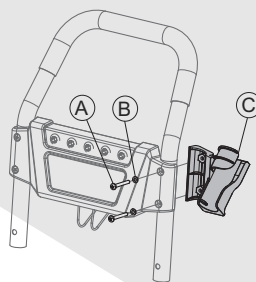

Fig 3
b. As shown in Figure 3, install the spray gun holder (C) on the right side of the upper handle frame with 2 M6x50 bolts (A) 2 washers (B).